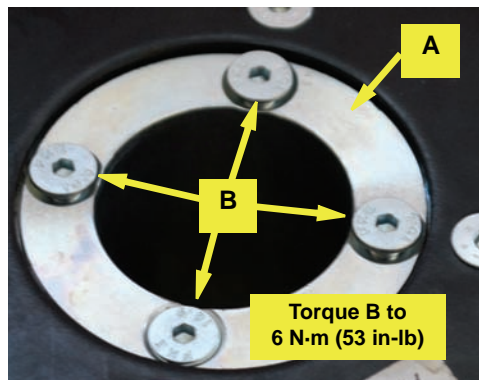

Figure 2c: Securing the splined shaft adapter. See Warning.
- c. Using the four countersunk screws **B**, secure the splined shaft adapter **A** in the steering wheel tightening the screws to **6 N·m (53 in-lb)** (Figure 2c).